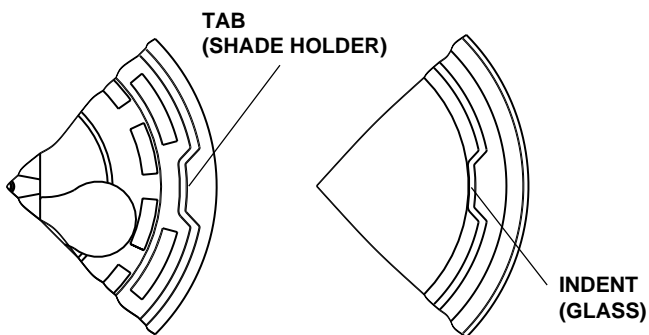

FIG. 5
9. Align the three (3) indents in the glass with the three (3) tabs in the shade holder, push glass up gently and turn to the right (clockwise) until the glass is locked in place. See FIG. 5